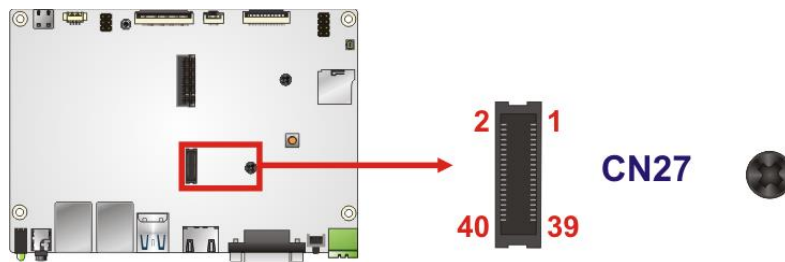

Figure 3-15: Wi-Fi/Bluetooth Module Slot Location
- CN Location:** See **Figure 3-15**